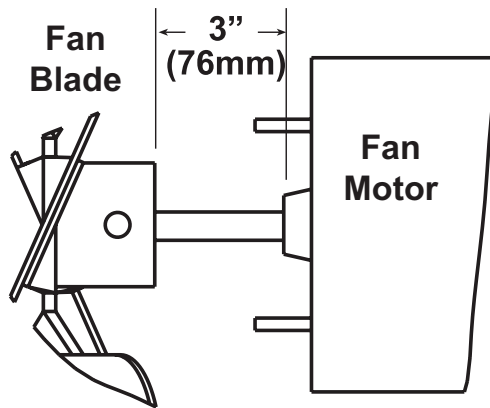

Figure 20. Fan Blade Positioning and Spacing
6. Ensure that fan blade is in proper position on shaft (see Figure 20).